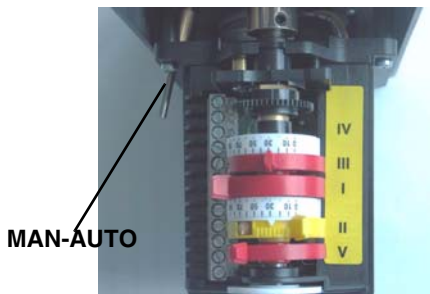
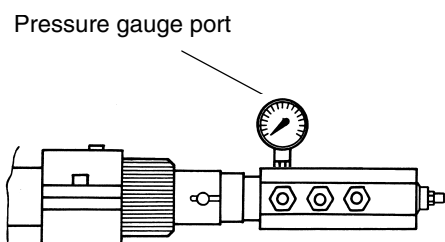

Fig. 17
Fig. 18
- 2 bleed the air from the **M** pressure gauge port (Fig. 17) by loosening the cap without removing it, then release the solenoid starter.
- 7 the nozzle supply pressure is already factory-set and must not be changed. Only if necessary, adjust the supply pressure as follows (see related paragraph); insert a pressure gauge into the port shown on Fig. 18 and act on the pump adjusting screw **VR** (see Fig. 17) as to get the nozzle pressure at 25bar (Fluidics nozzles - see diagram on page 21).